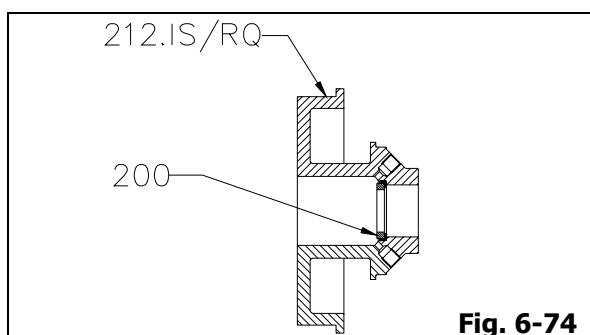

Fig. 6-74
- Coat mechanical seal (200) seat surface in stuffing box cover (212.IS/RQ) with oil. Carefully place the stationary portion of mechanical seal (200) into position and press gently by hand until the shoulder of the seal is fully seated against the stuffing box cover (212.IS/RQ). Make sure that the lapped face of seal is facing outside (Fig. 6-74).